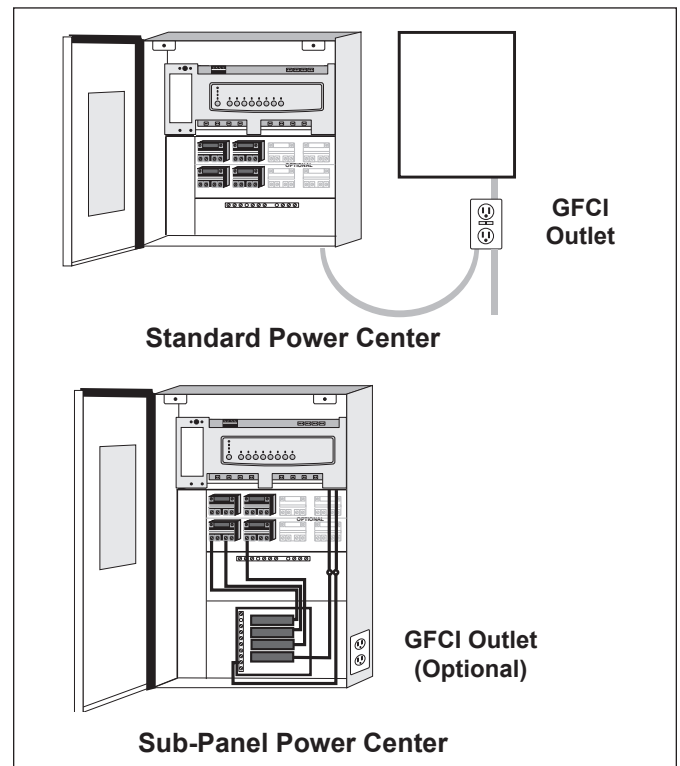

Figure 4. GFCI Installation for Underwater Lighting
1. For a standard power center, install an appropriately rated GFCI receptacle next to the breaker panel. For a sub-panel power center install an appropriately rated GFCI receptacle in the power center (use the knockout provided on the right side of the sub-panel power center). See Figure 4.